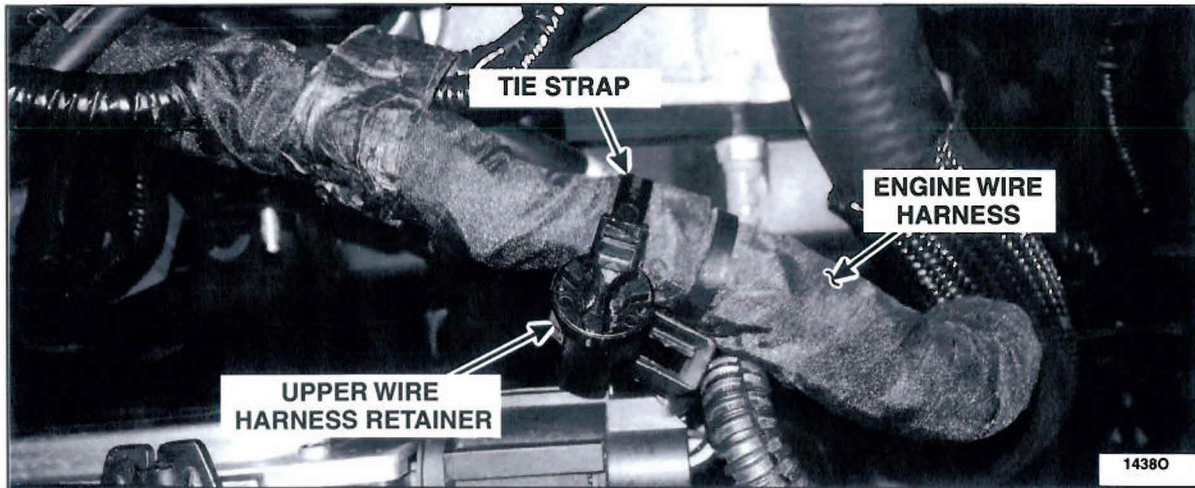

FIGURE 4
See Figure 4.
20. Install the upper wire harness retainer that was removed during Step 7 onto the engine wire harness using a *new* tie strap. See Figure 4.